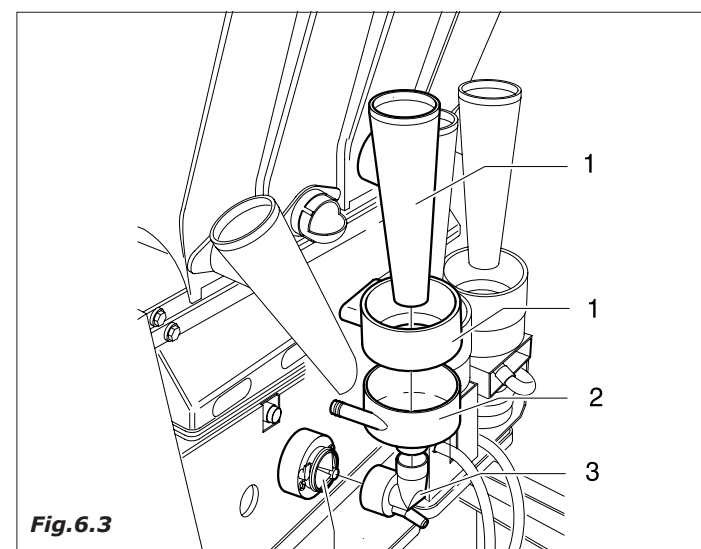

Fig.6.3
- funnels and powder chutes (Fig. 6.3-pos.1)
- water funnel (2), mixing bowls (3) whipper assembly (4)